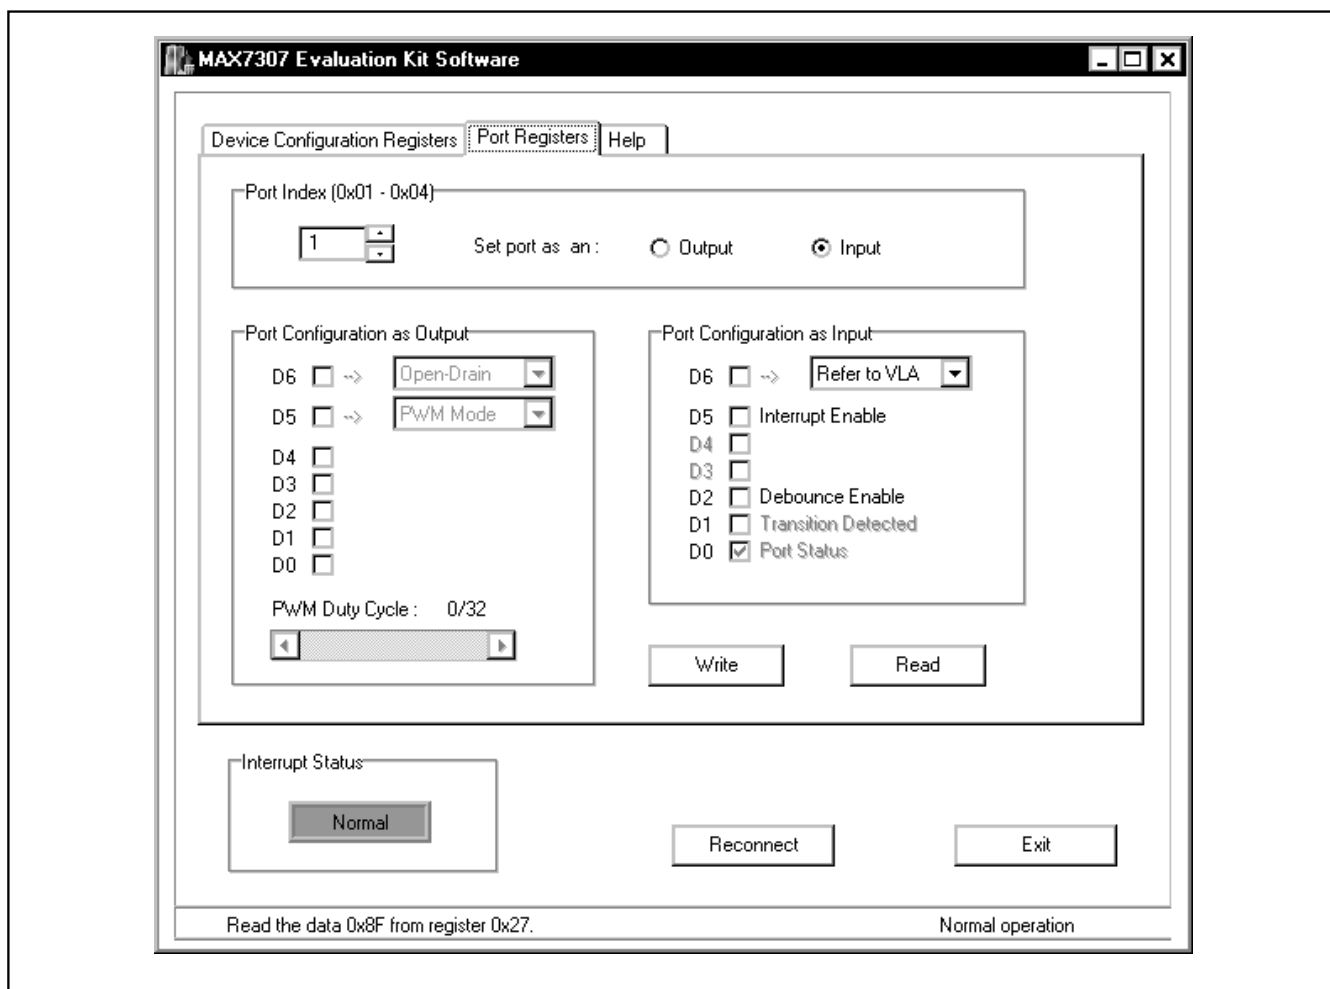

Figure 2. Port Registers Tab
- 12) Switch to **Port Registers** tab, as shown in Figure 2. Check the **Output** radio button in the **Port Index (0x01 - 0x04)** panel and press the **Write** button. Observe the light change of LED on the EV kit board.
The **Port Registers** tab shown in Figure 2 contains the **Port Index (0x01 - 0x04)** group box, **Port Configuration as Output** group box, **Port Configuration as Input** group box, and the **Read** and **Write** buttons.